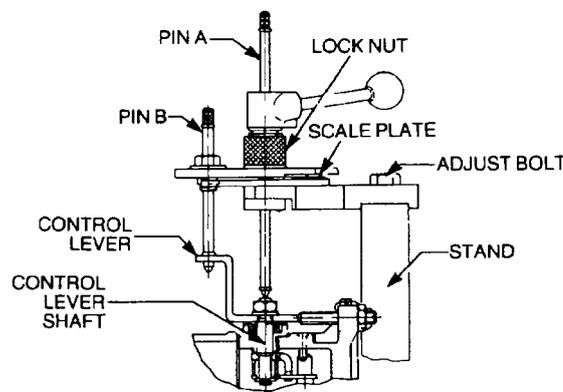

Figure 116 Positioning the Adjusting Device
- d. Move the support bracket of the adjusting device until pin 'A' is over the centre hole of the control lever shaft (Figure 116), secure the support bracket in place and insert pin 'B' into the hole in the control lever.